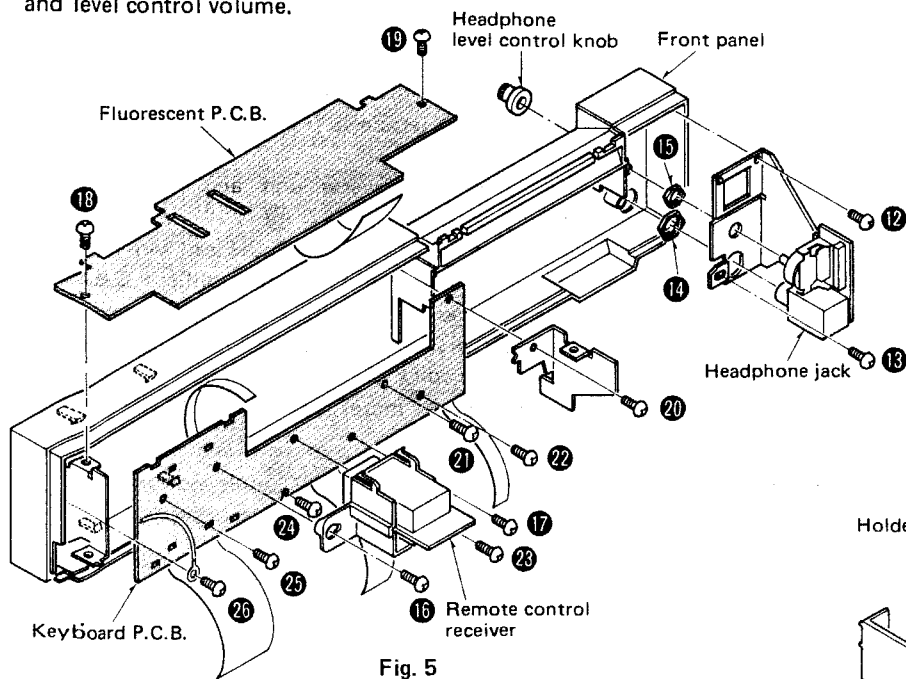

Fig. 5
3. Remove the 2 headphone jack fitting setscrews [Fig. 5: ⑫, ⑬]
4. Remove the 2 nuts [Fig. 5: ⑭, ⑮] of headphone jack and level control volume.
2. Remove the 2 setscrews [Fig. 5: ⑯, ⑰] of receiver.
3. Remove the 2 setscrews [Fig. 5: ⑱, ⑲] of fluorescent P.C.B., then the fluorescent P.C.B. can be removed.
4. Remove the 7 setscrews [Fig. 5: ⑳ ~ ㉑] of P.C.B. and release the 4 claws, then the keyboard P.C.B. can be removed.